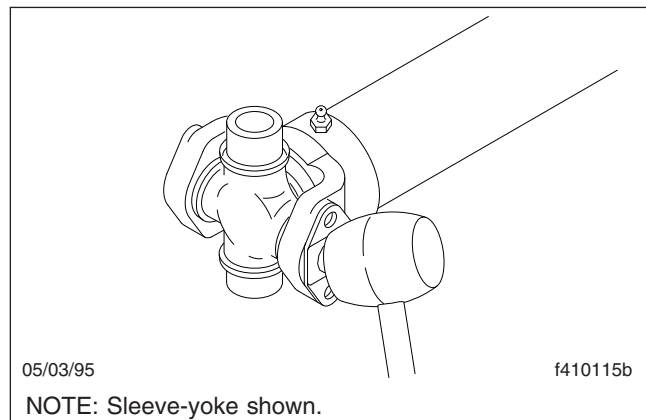

Fig. 9, Seat a U-Joint Bearing Cup in a Full-Round Yoke
- 3.3 By hand, press the bearing assembly flush with the face of the yoke. If the bearing assembly binds in the cross-hole, tap the *center* of the bearing plate with a rubber or rawhide mallet; do not tap the outer edges of the bearing plate. See Fig. 9.